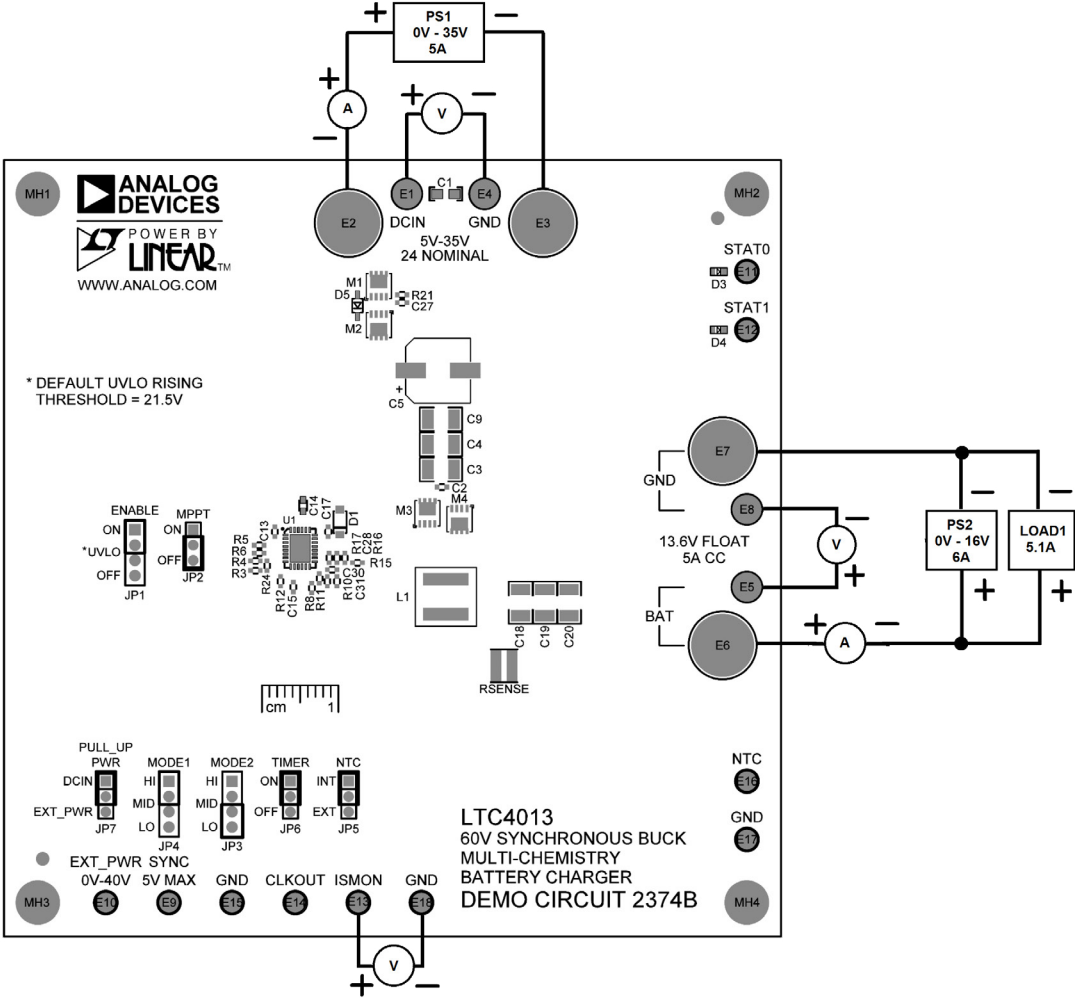
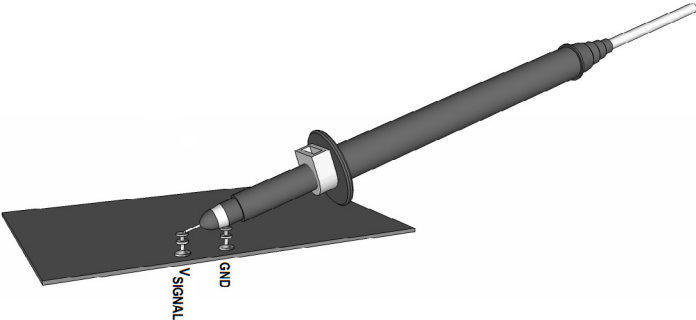

Figure 1. Proper Measurement Equipment Setup
Figure 2. Measuring Input or Output Ripple
The DC2374B is easy to set up to evaluate the performance of the LTC4013. Refer to Figure 1 and Figure 2 for proper measurement equipment setup.
NOTE: When measuring the input or output voltage ripple, care must be taken to avoid a long ground lead on the oscilloscope probe. Measure the input or output voltage ripple by touching the probe tip directly across the V_{IN} or V_{OUT} and GND terminals. See Figure 2 for proper scope probe technique.
2. With power off, connect a 0V to 16V, 6A power supply (PS2) to BAT and GND terminals with a series ammeter and a voltmeter as shown in Figure 1.
3. With power off, connect a 5.1A load (LOAD1) to BAT and GND terminals in parallel with PS2 as shown in Figure 1.
5. With power off, connect a 0V to 35V, 5A power supply (PS1) to DCIN and GND terminals with a series ammeter and a voltmeter as shown in Figure 1.